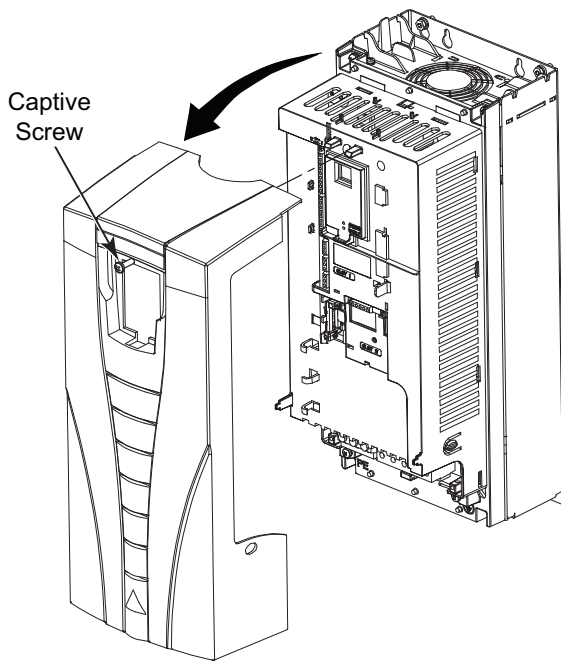

Fig. 38 — Remove ACH550 VFD Front Cover
2. Remove the VFD's front cover (see Fig. 38).